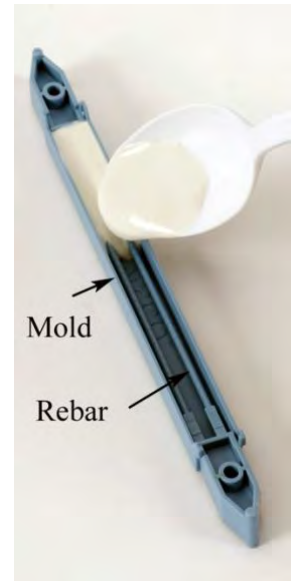

Figure 3: Making Cast Beams
1. Snap the rebar into the mold (see Figure 3). Pour all of the beams from the same batch. Tap the sides to remove bubbles.